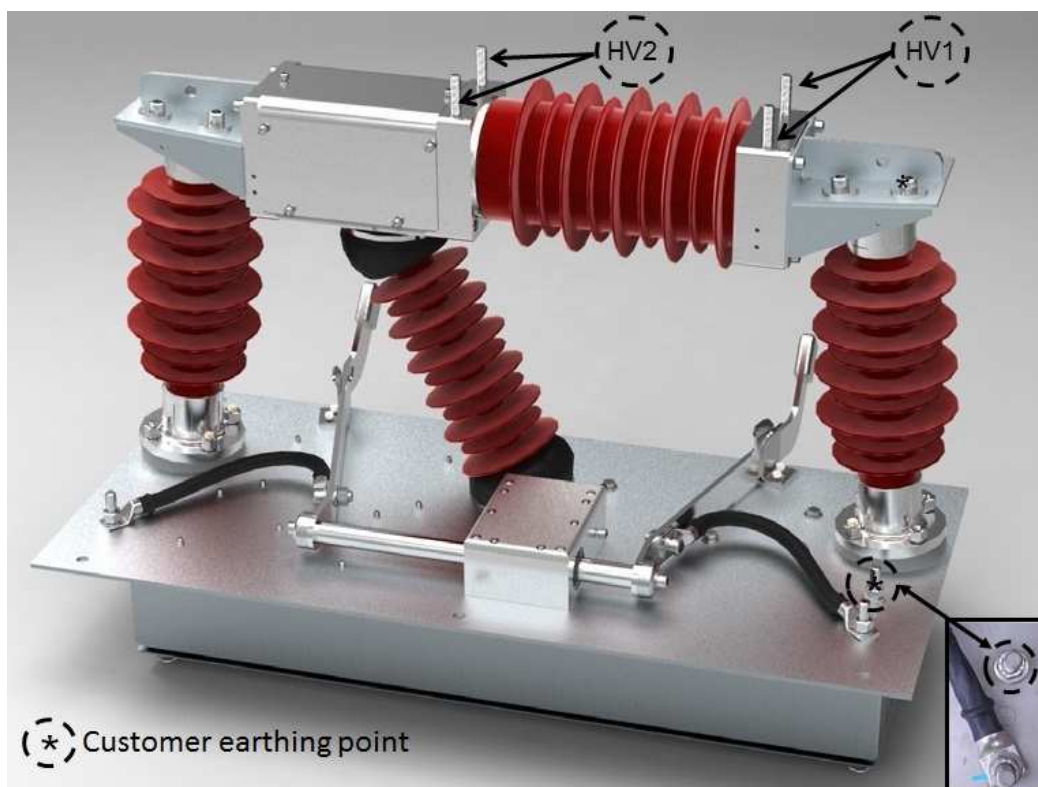
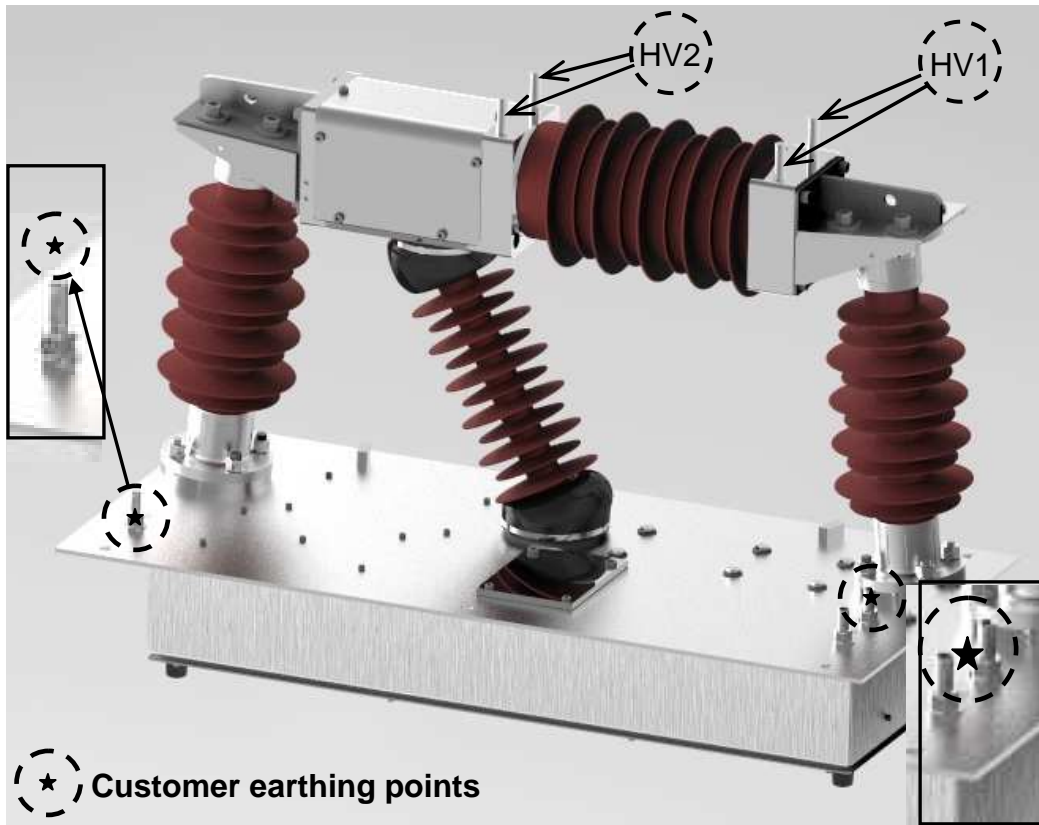

Figure 16: VESA 101 HV & earthing points
Figure 17: VESA 102 HV & earthing points
- e) Clean the contact area around the HV connections marked HV1 and HV2 (see Figure 16 VESA 101, Figure 17 VESA 102 and Figure 18 VESA 103). Contact grease must be applied to the HV1 and HV2 connections faces before fitting the HV connections. TE Connectivity recommends the use of ENERTAL grease TE PN 717542-1.
- g) Attach earth conductors from the train chassis to the earthing point shown in Figure 16 (torque value 67Nm used in conjunction with lubrication).